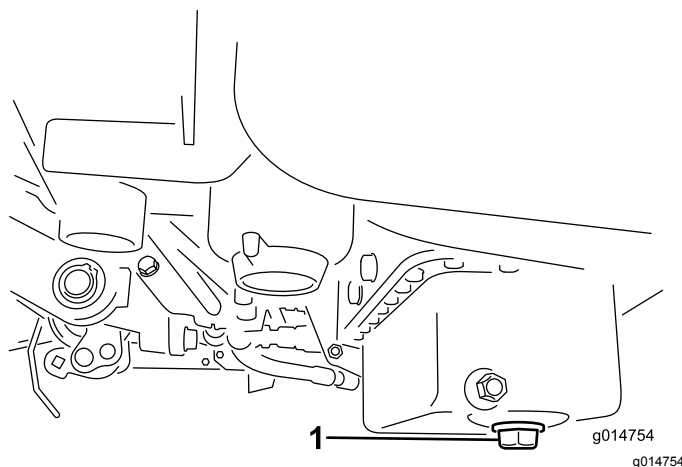

Figure 42
1. Remove the drain plug and let oil flow into a drain pan. When the oil stops, install the drain plug (Figure 42).